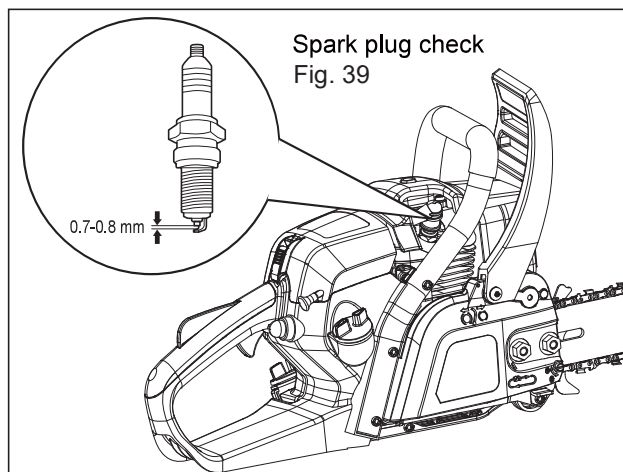

Fig. 39
5. Check the spark plug gap. It should be 0.027-0.031in.(0.7-0.8 mm)(Fig.39).